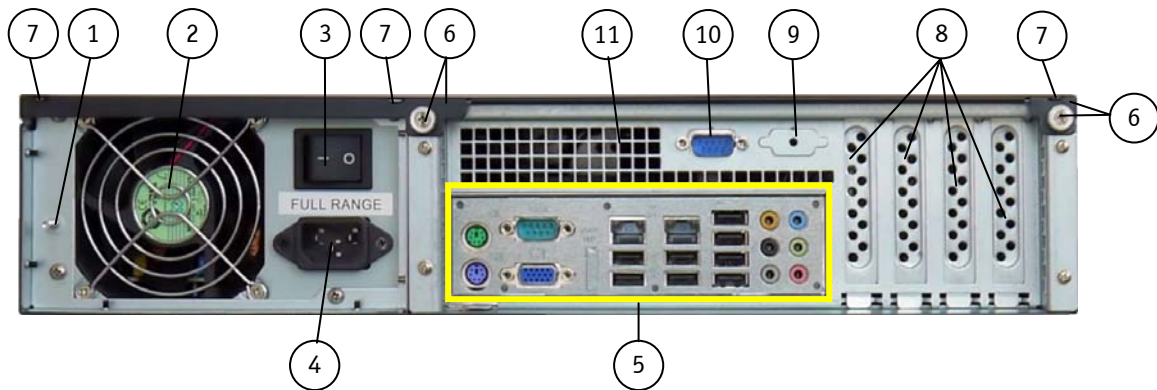
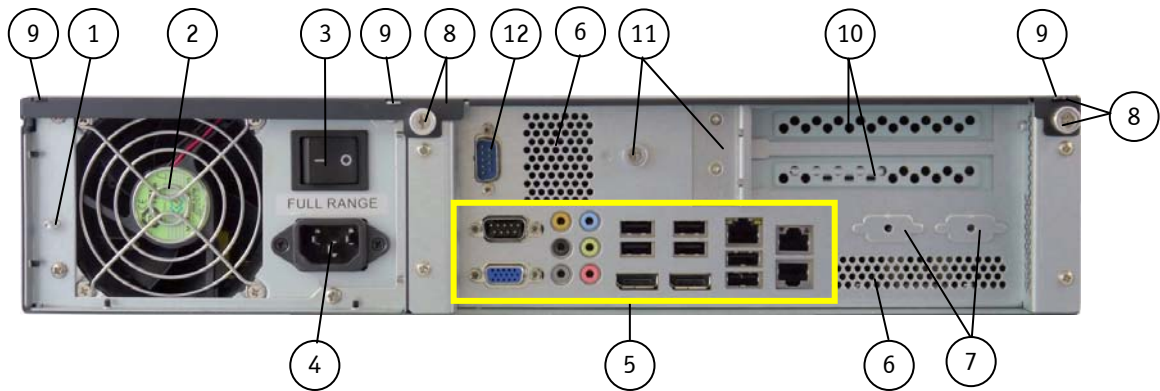

Fig. 15: Rear side of the KISS 2U Short V2 (shown as a configuration for low profile cards)
Fig. 16: Rear side of the KISS 2U Short V2 (shown as a configuration riser card)
- the knurled screws (Fig. 15, pos. 6, Fig. 16, pos. 8 and Fig. 26) on the rear side
The captive knurled screw of the slide bracket (Fig. 16, pos. 11) may not be unscrewed (loosened) during operation (while the system is connected to the power source and switched on)!
Depending on the installed motherboard, your system can be equipped with on-board interfaces (e.g. serial interface) routed to the rear panel (refer to Fig. 15, pos. 9 and Fig. 16, pos. 7). These ports allow you to connect different peripherals.
The KISS 2U Short V2 is equipped with an AC wide range PSU (Fig. 15 and Fig. 16, pos. 4). On request only, it can be equipped with a +24VDC or a -48VDC PSU. For information about the integrated power supply unit (PSU) and the rated voltage of your system, please refer to the type label attached on the right side of the unit.
The grounding stud is located on the rear side of the KISS 2U Short V2 platform (Fig. 15 and Fig. 16, pos. 1).
- ❑ the knurled screws (Fig. 15, pos. 6, Fig. 16, pos. 8 and Fig. 26) on the rear side